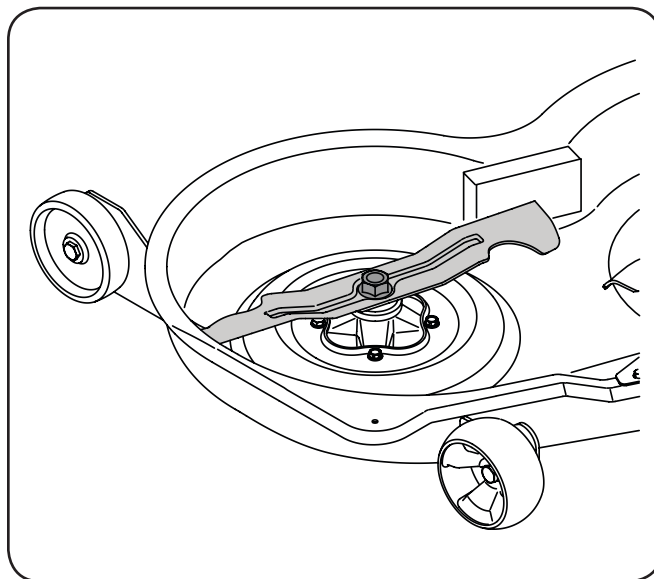

Figure 1-2
3. Place a block of wood between the deck housing baffle and the cutting blade to act as a stabilizer, then use a wrench to remove the hex flange nut that secures each blade to its spindle assembly. See Fig. 1-2.